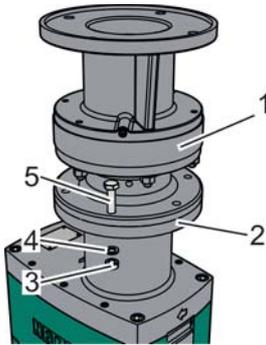

Fig. 85: Releasing the gear, example
- 4. ➤ Secure the gear (Fig. 85/1) with suitable lifting equipment.
! If lifting equipment is attached to the gear above the attachment bolts (Fig. 85/5), an additional securing element must be used to prevent the gear (Fig. 85/1) from tipping over. As an alternative, operator-side transport eyes can be inserted into the attachment boreholes of the drive.
- 5. ➤ Release the attachment bolts (Fig. 85/5) of the gear (Fig. 85/1).
- 6. ➤ Place the nuts (Fig. 85/3), retaining rings (Fig. 85/4) and attachment bolts (Fig. 85/5) to the side.
- 7. ➤ Carefully separate the gear (Fig. 85/1) from the connection flange (Fig. 85/2) of the machine and place to the side, secured against rolling away.